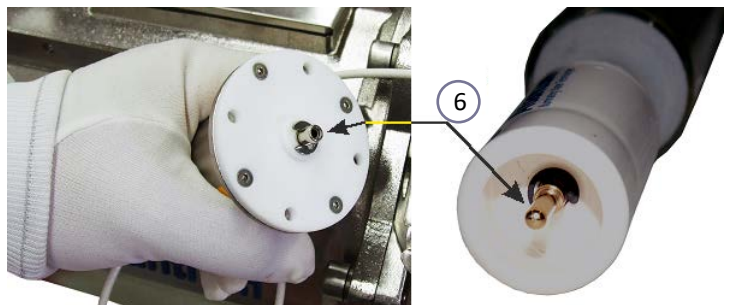

Figure 10-8: Lamp Replacement (Generic View 3)
- Step 32.** For the lamp that is replaced, on the connection box, turn the lamp switch to the **On** position. Check that the lamp ignites properly. See **Figure 10.8**
- Step 34.** Return the lamp's breather caps (G).